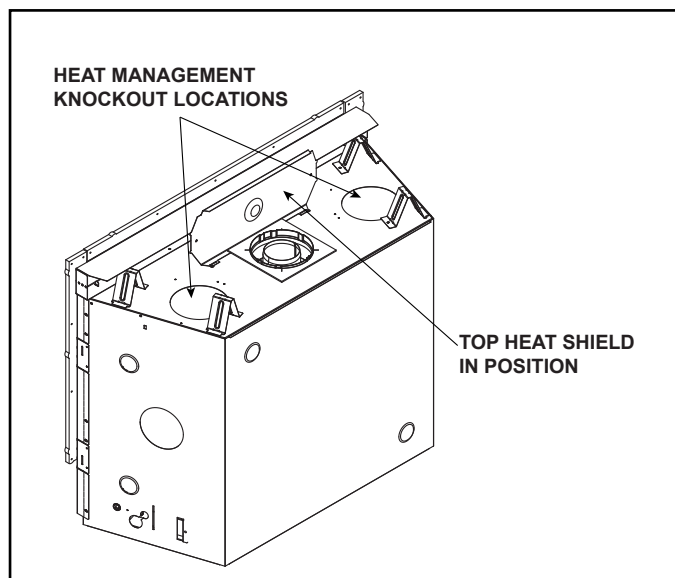

Figure 6.2 JADE42IN-B / JADE42IL-B
2. Fold up top heat shield to 90 degrees as shown in Figure 6.2.
- Locate the two heat management ports on the top of the appliance. Either one or two Heat-Zone®-Gas Kits may be installed. See Figure 6.2. Remove the knockouts from the appliance with a tin snips.